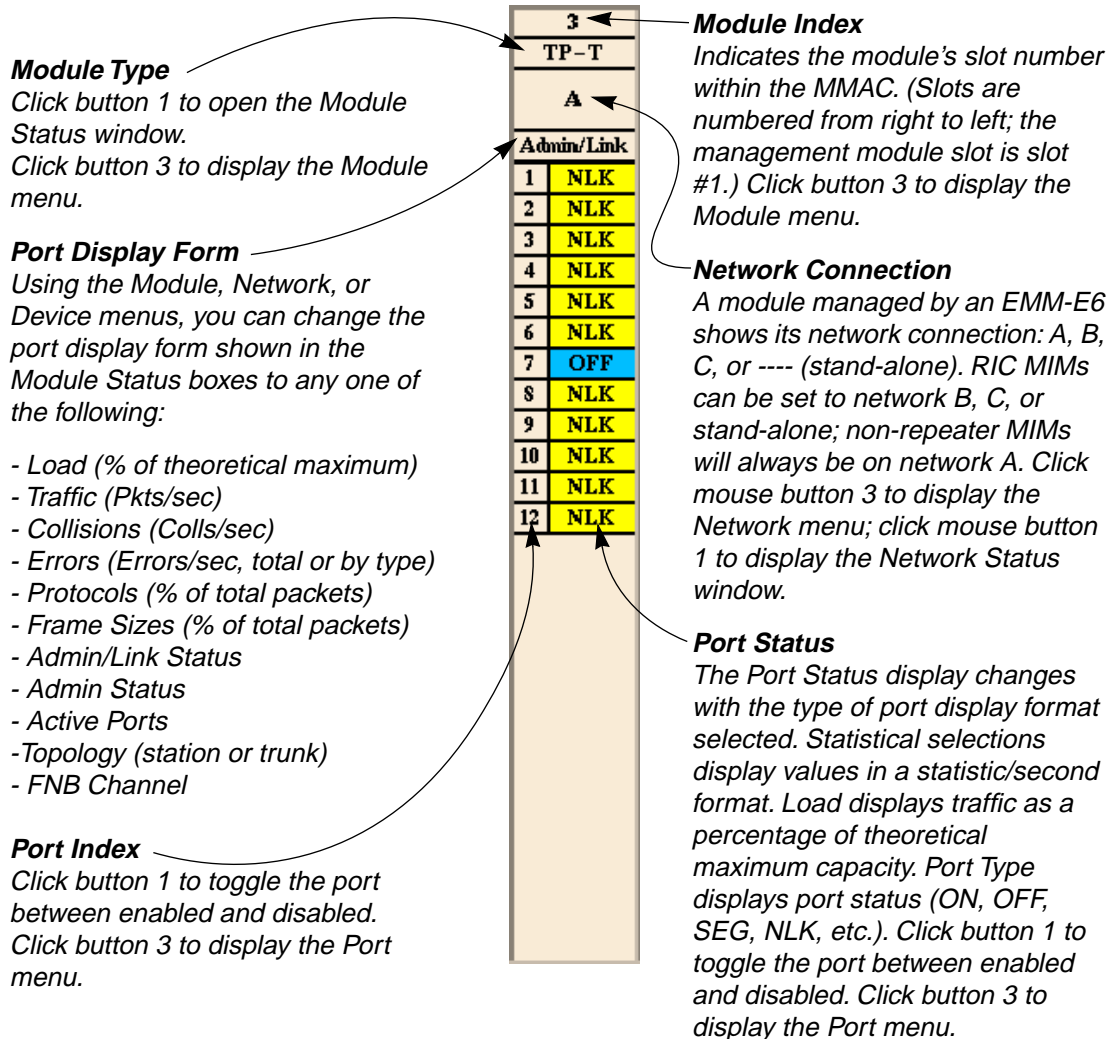

Figure 2-5. Mousing Around a Module Display
1. Click in the appropriate area to display the Device, Network, or Module menu (refer to Figure 2-5, page 2-7).